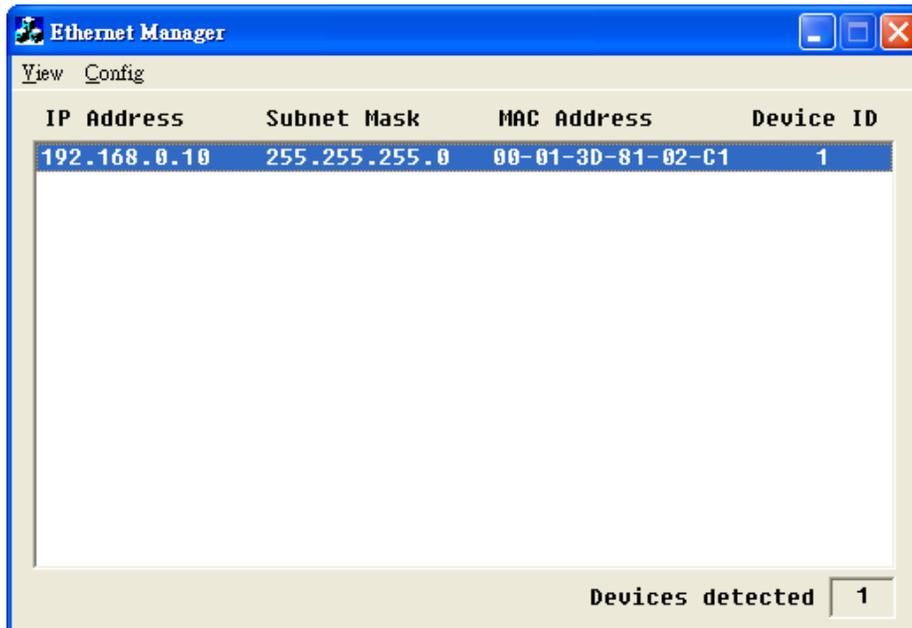

Figure 23
7. Click ETM.exe on the PC. It will detect the existence of the installed Ethernet Card and depict the Ethernet Card's status: IP address, Subnet Mask, MAC Address, and Device ID (see Figure 23).